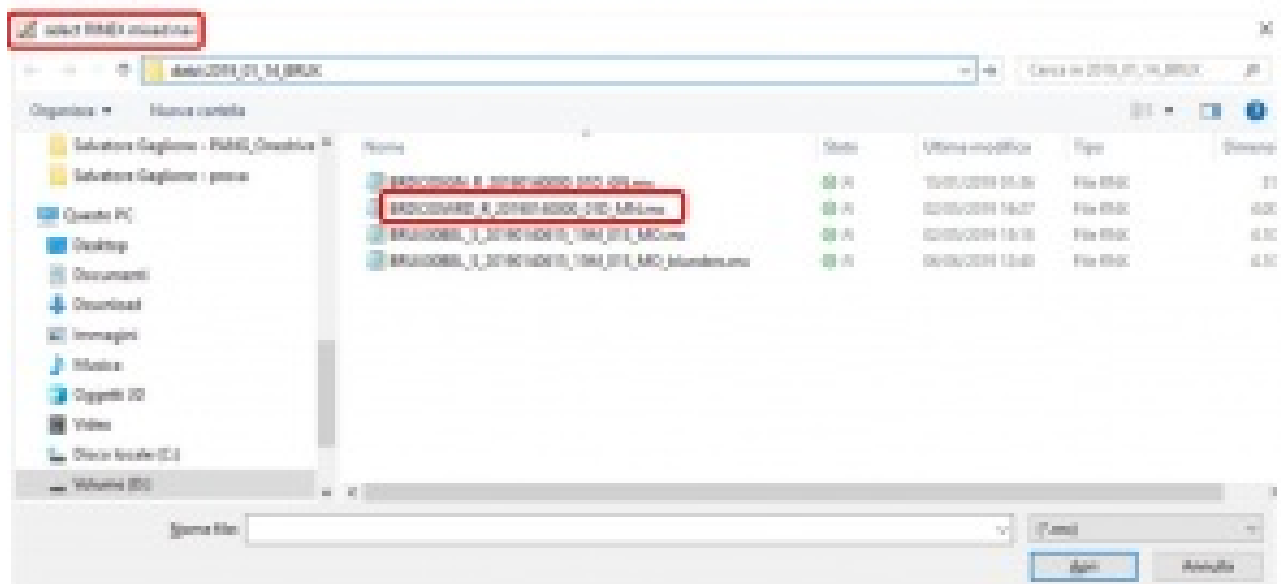

Figure 4
- one RINEX mixed navigation (3.2 version) file (figure 4),